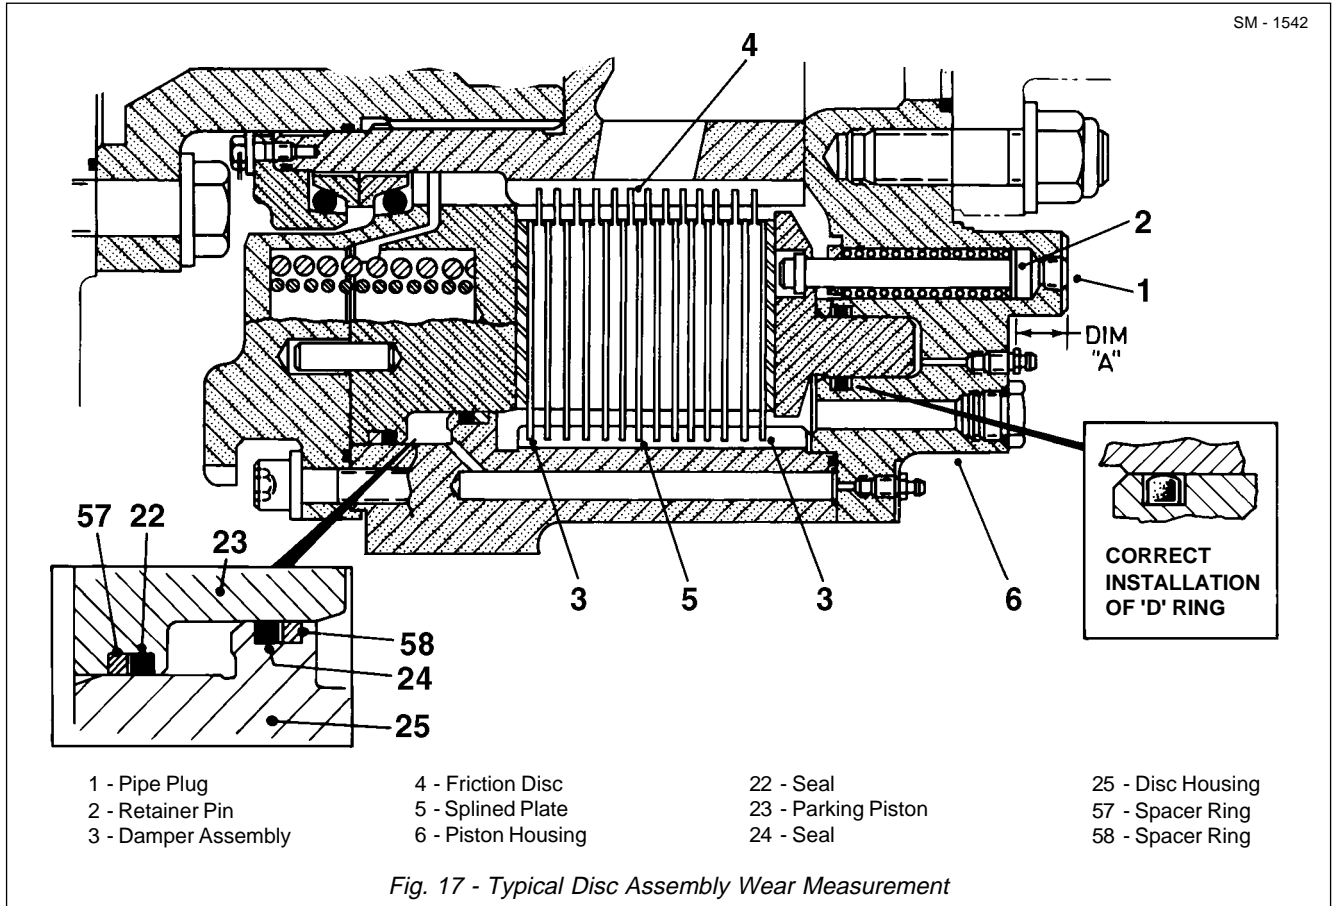

Fig. 17 - Typical Disc Assembly Wear Measurement
Numbers in parentheses refer to Fig. 17, unless otherwise specified.
4. Lubricate spacer ring (58) with 'Wynns S.T.P.' and install in disc housing (25) as shown in Fig. 17.
5. If removed, install dowels (19) in parking piston (23).
7. Lubricate spacer ring (57) with 'Wynns S.T.P.' and
install in parking piston (23) as shown in Fig. 17.
8. Lubricate disc housing seal (24) and area around the seal generously with 'Wynns S.T.P.'. Install parking piston (23) into disc housing (25).
9. Place spring housing (14) on parking piston (23) to align with dowel (19). Rotate spring housing (14) so that dowel (18) in disc housing (25) aligns with the hole in the spring housing. Seat parking piston (23) in disc housing with six bolts (12). Use care to prevent damage to seals (22 & 24). Remove bolts (12) and spring housing (14).
Note: Install 'D' section seals in piston housing assembly as shown in the section in Fig. 17.